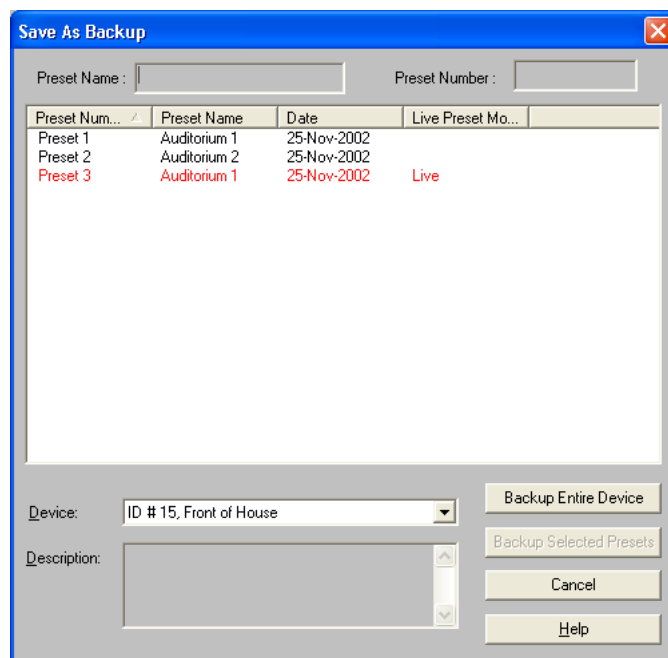

FIGURE 4-5: “Save As Backup” Dialog
3. The “Save As Backup” dialog appears, as pictured on the right in Figure 4-5.